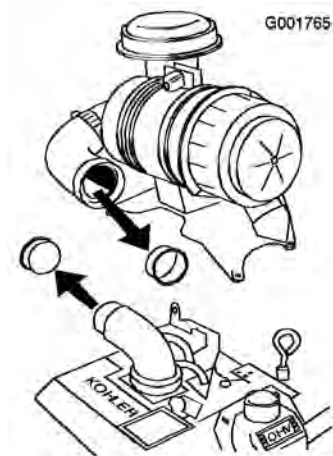

Figure 17
3. Remove the plastic plugs (Figure 17).